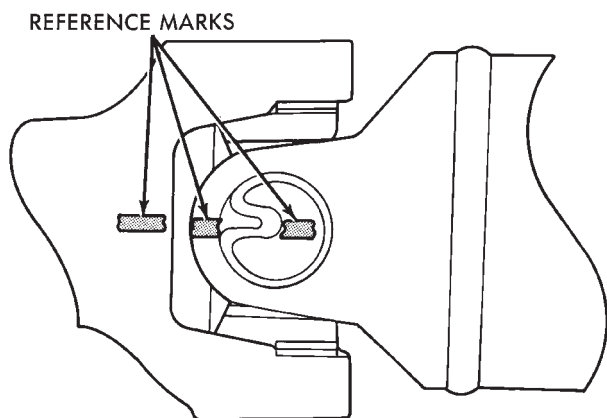

Fig. 10 Align Propeller Shaft And Rear Axle Yokes
(15) Position transfer case on transmission jack, if equipped.
(16) Secure transfer case to jack with safety chains, if equipped.
(17) Raise transfer case, if equipped, and align transfer case input shaft to the transmission output shaft.
(18) Slide transfer case forward until case is seated on transmission, if necessary.
(19) Install nuts to attach transfer case to transmission, if equipped. Tighten transfer case-to-transmission nuts to 35 N·m (26 ft. lbs.) torque.
(20) Connect transfer case shift linkage at transfer case, if equipped.
(21) Connect transfer case vent hose, if equipped.
(22) Secure wire harnesses in clips/tie straps on transmission and transfer case, if equipped.
(23) Engage wire connectors attached to all necessary transmission or transfer case, if equipped, components.
(24) Install rear propeller shaft slip yoke to transmission or transfer case, if equipped, output shaft.
(25) Align marks on rear propeller shaft and rear axle yokes (Fig. 10).